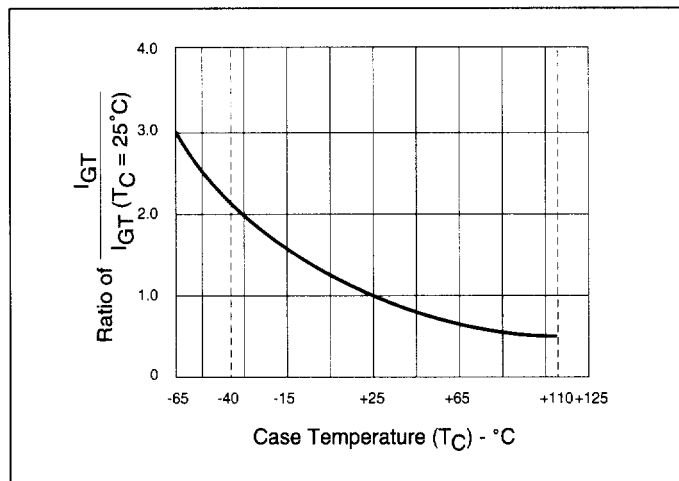

Figure 1.7 Normalized DC Gate Trigger Current for All Quadrants vs Case Temperature
- (6) See Figure 1.7 for  $I_{GT}$  vs  $T_C$ .